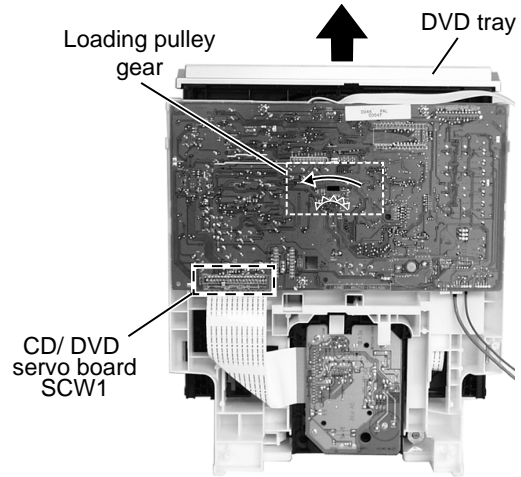

Fig.1
■ Removing the DVD tray (See Fig.1 to 3)